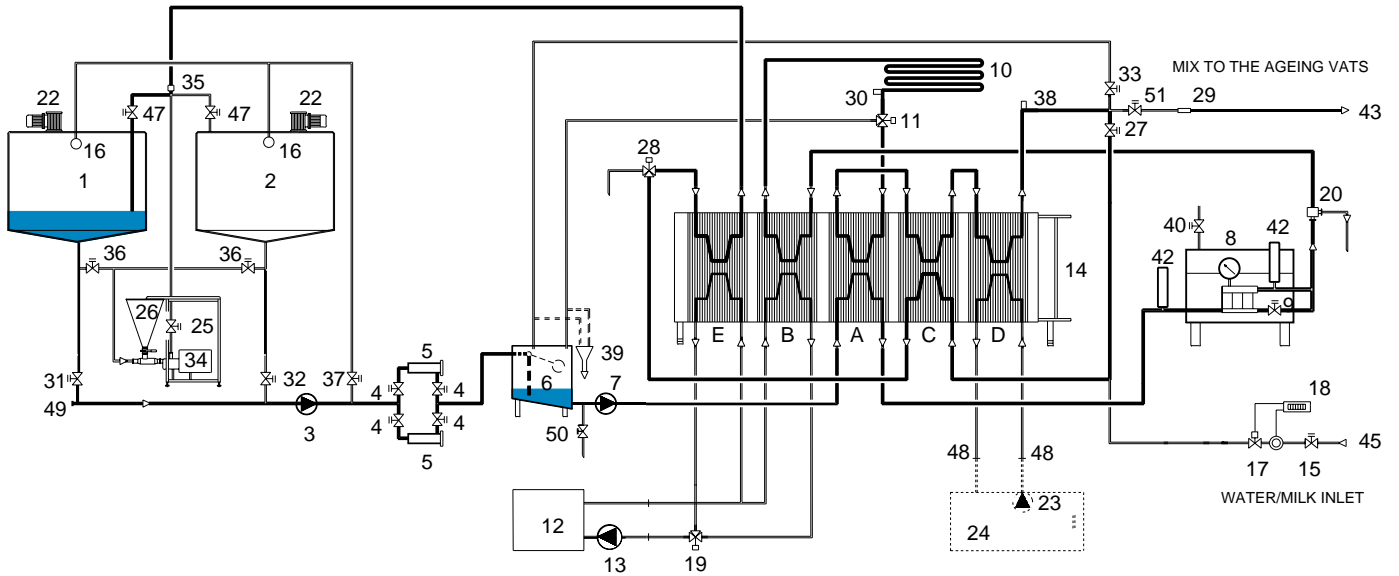

Fig. 7.3
11. Keep valves (33) and (51) closed and open valve (27). The washing solution is recirculated from the balance tank to the sections of the PHE, the homogenizer and tank (1) (see Fig. 7.3).